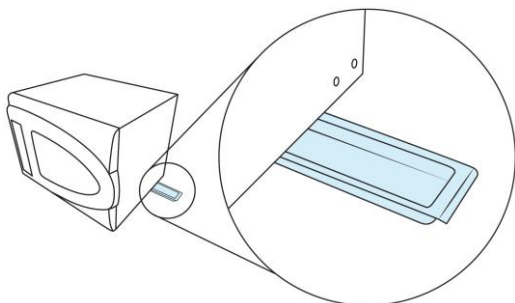

Figure 8. Condensation tray
- 9.2.2. Frequently check condensation accumulation in the condensation tray (fig. 8), discard if necessary.